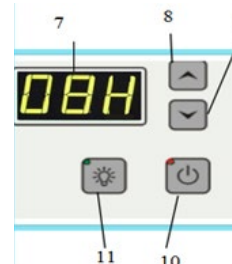

Fig. 9-3
- Click  Key (10) to set up heating duration between 1 ~ 12 h by using Key (8) or (9) (Fig. 9-3).